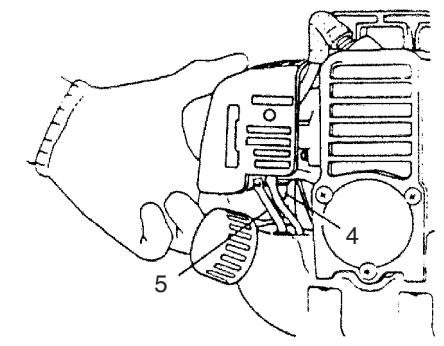
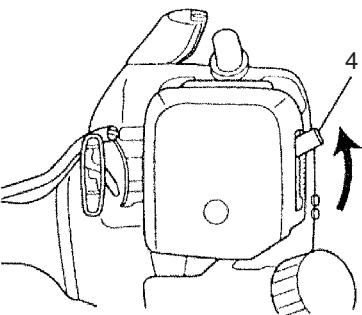

Fig. 2-2C
Fig. 2-3
*Push priming bulb (4) several times so that fuel flows through return pipe (5) (If so equipped)(Fig. 2-2C)
2. With the safety trigger (2) pressed (if so equipped), pull throttle trigger and push throttle lock (3), then slowly release the throttle trigger first, then the safety trigger. This will lock the throttle in starting position.
3. Set choke lever to CLOSED position (4). (Fig. 2-3)